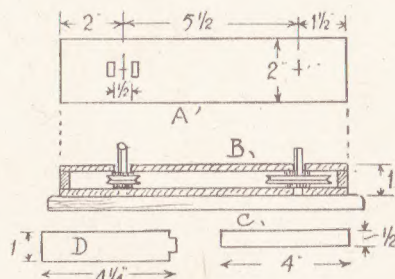

Fig. 1—Section and plan of base
Some of the parts are grouped together in Fig. 1, forming what we might call the framework of the whole. From $\frac{1}{2}$ in. wood cut two of parts (A). Run a pencil line along the middle, and on this, at the points indicated, bore holes $\frac{1}{4}$ in. diameter through both.